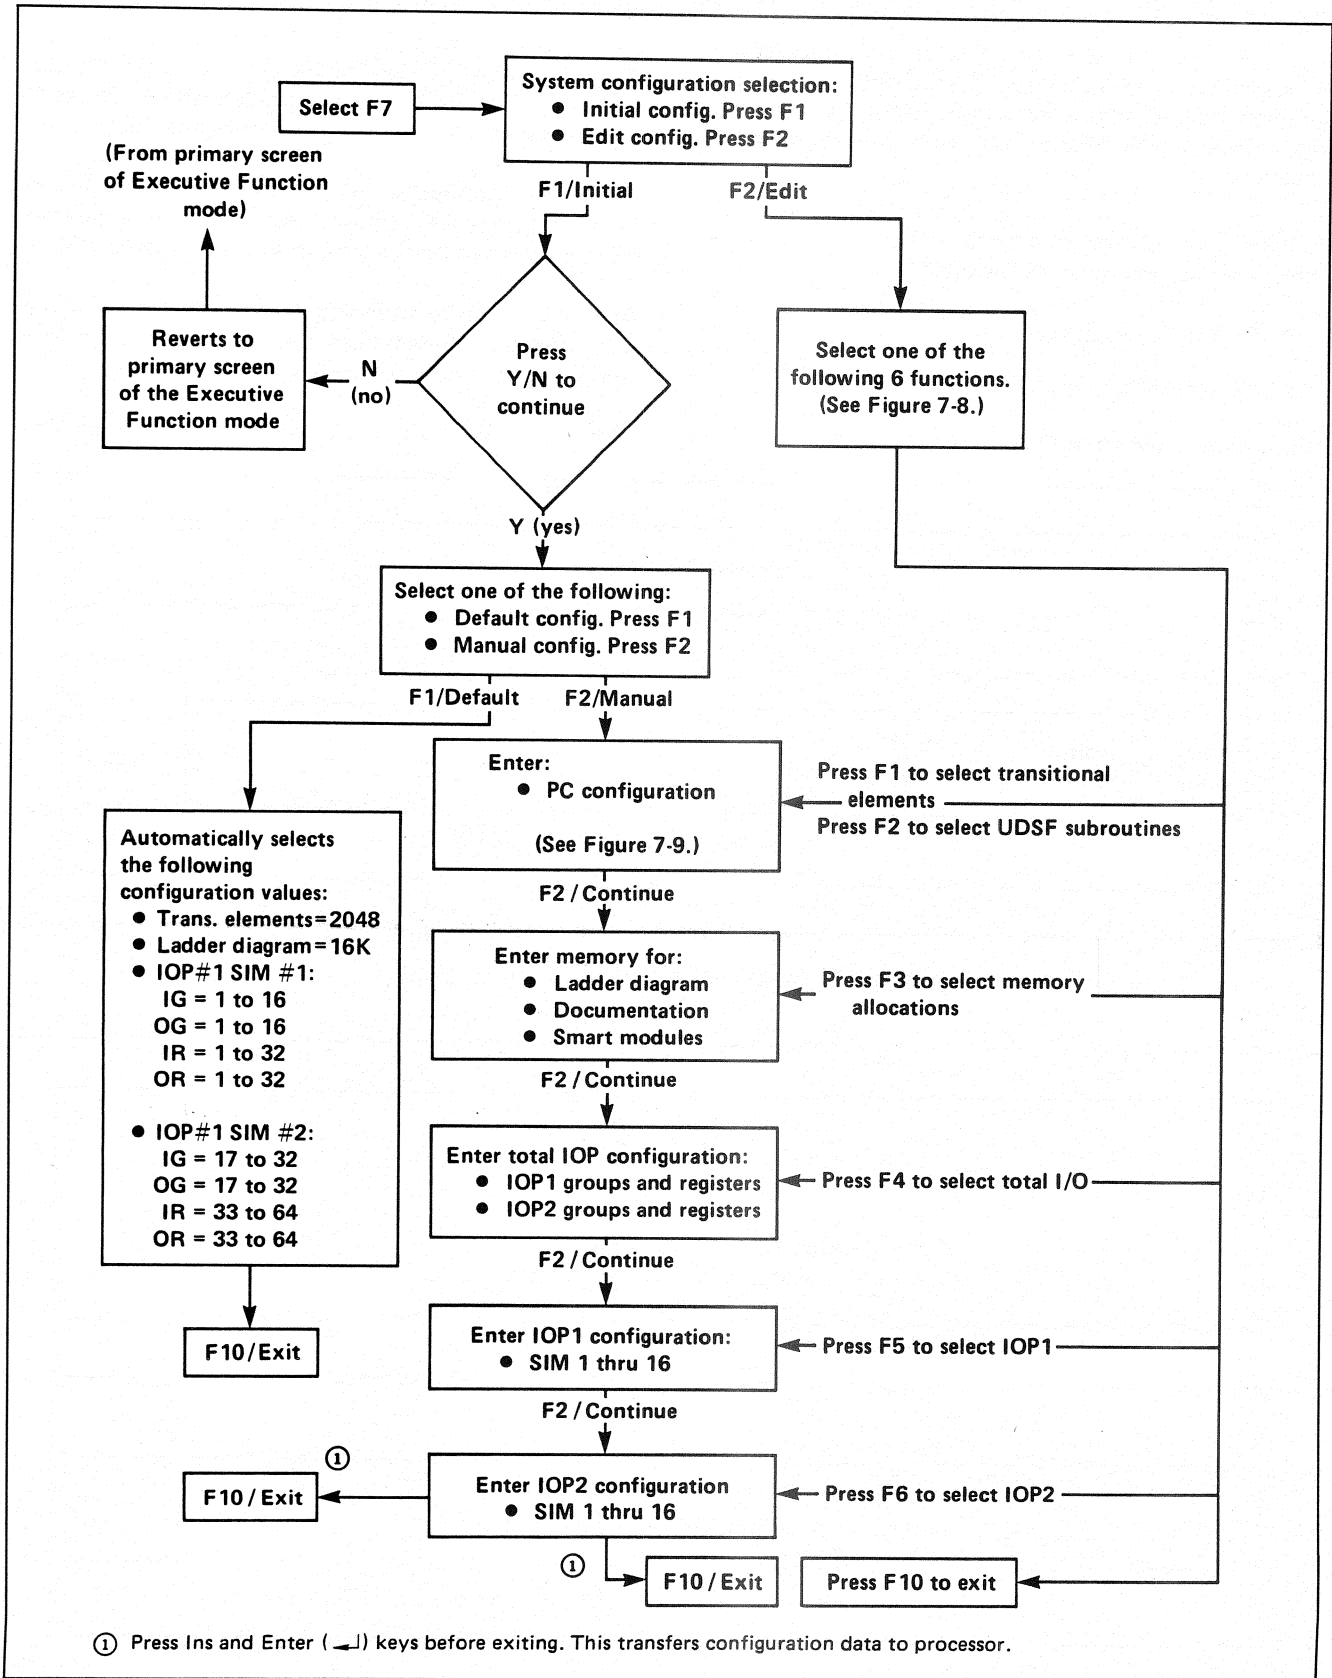
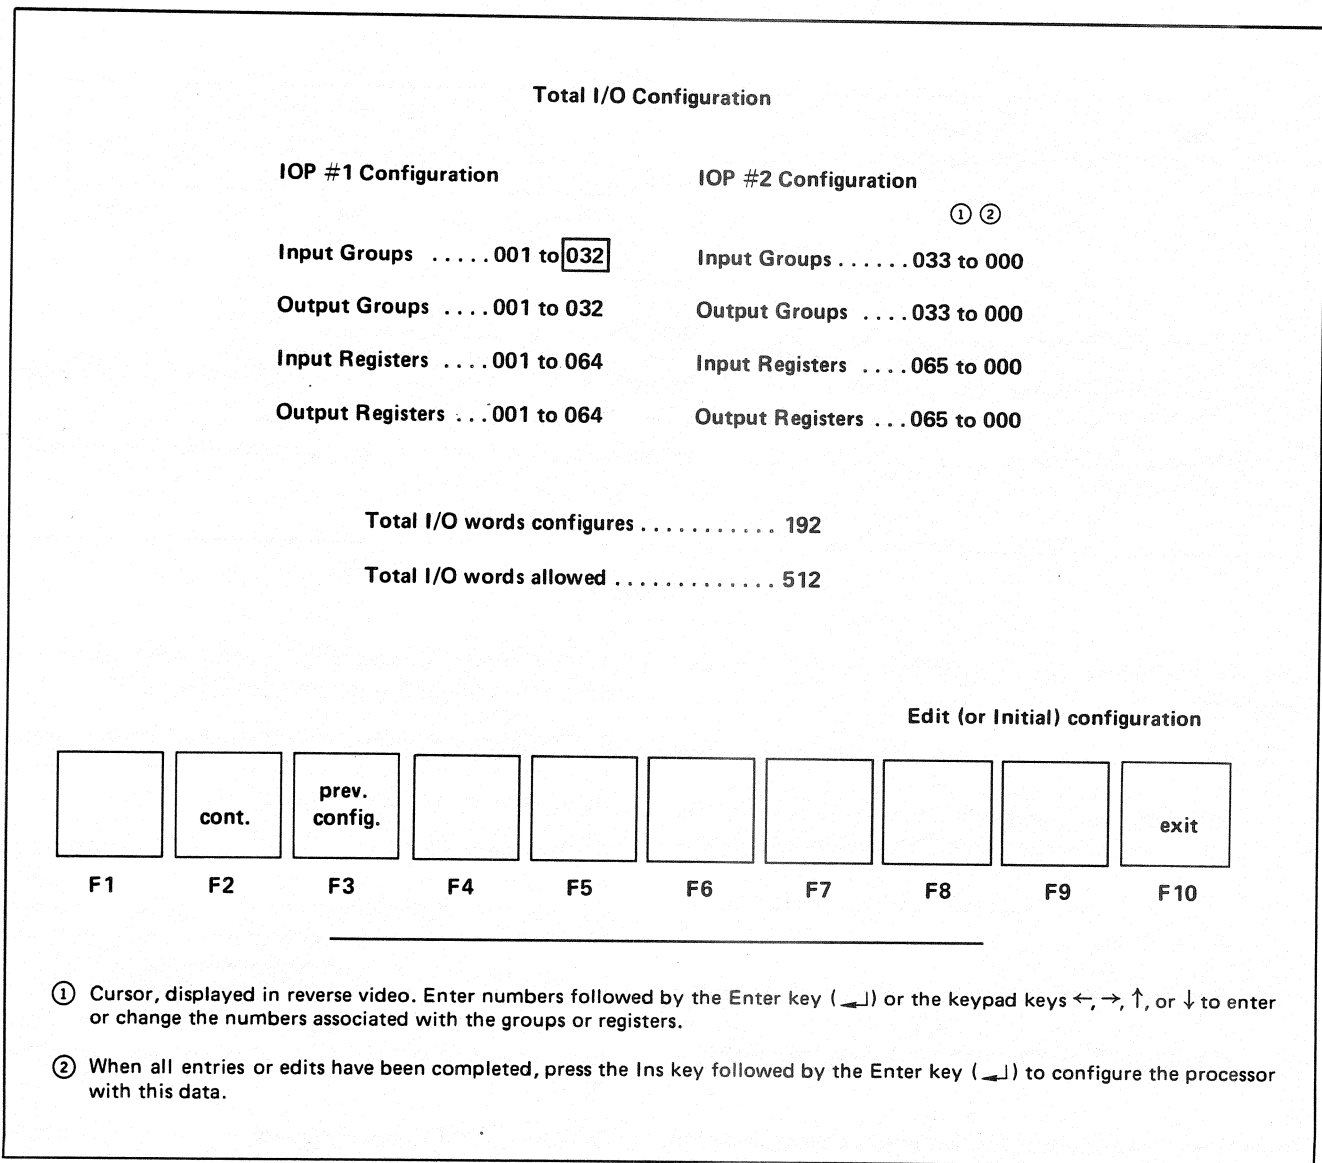

Figure 7-6. System Configuration Entry Patterns
Figure 7-11. Total I/O Configuration
The system configuration function is initiated by pressing the F7 key when the primary screen of the Executive Function mode is displayed. At this time the various function key selections shown in Figure 7-6 are available. Observe the Figure and note the following 3 points:
2. The initial configuration assumes the configuration has not been performed. It provides either a default configuration, or allows for manual entry of a specific configuration. The default assigns predefined configuration values, as listed in the left portion of Figure 7-6.
As can be seen by observing Figure 7-6, the configuration, whether entered from the initial (manual) or edit configuration function, consists of the following:
The PC configuration is entered by the user either initially during the manual system configuration, or at any time using the edit system configuration, as shown in Figure 7-6.
The Total I/O Configuration defines which I/O "words" are assigned to I/O Processor Modules No. 1 and 2. (See Figure 7-11.) The Total I/O Configuration function is entered either through the initial (manual) configuration function, or at any time through the edit configuration function. (See Figure 7-6.) When the Total I/O Configuration is initiated, the screen shown in Figure 7-11, is displayed. Observe the Figure and note the following 3 points:
The SIM Configuration is entered either through the initial (manual) configuration function or at any time through the edit configuration function, as shown in Figure 7-6. When the SIM Configuration is initiated, the screen shown in Figure 7-12 is displayed. Observe the Figure and note the following 5 points: